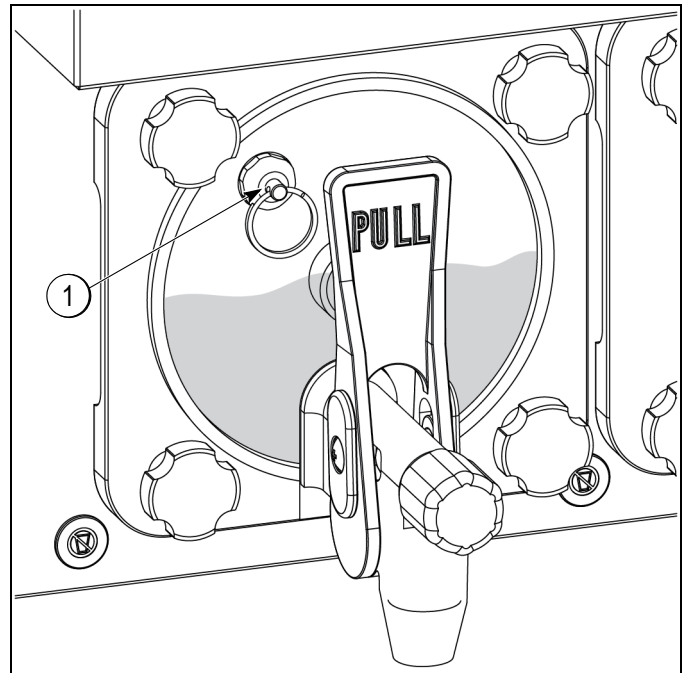

Figure 6-26
2. Pull on the relief valve ring (1) to relieve pressure. Valves will automatically restart when pressure drops below 20 BPU. When valves activate, **RELEASE** relief valve ring (1).
3. See Figure 6-26 for approximate liquid level.